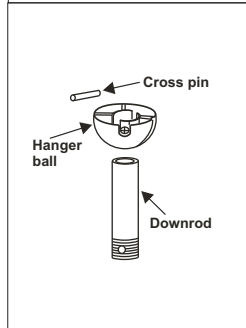

Figure 7
3. Remove hanger ball from downrod assembly by loosening set screw, removing the cross pin, and sliding ball off rod. (Figure 7)